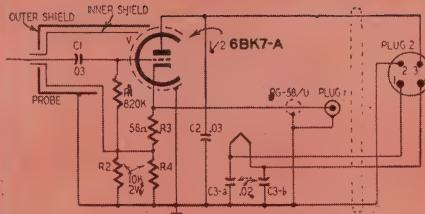

Fig. 4—Schematic diagram of the low-capacitance probe and power supply.
This probe (Fig. 4) uses a 6BK7-A as a cathode follower. While this type of circuit provides no voltage gain, it does have an extremely high input impedance and a very low input capacitance. With a 6BK7-A, using one section only, a voltage "gain" (A) of 0.95 is obtained. While grid resistor R1 is shown as 820,000 ohms the action of the cathode follower is to increase this